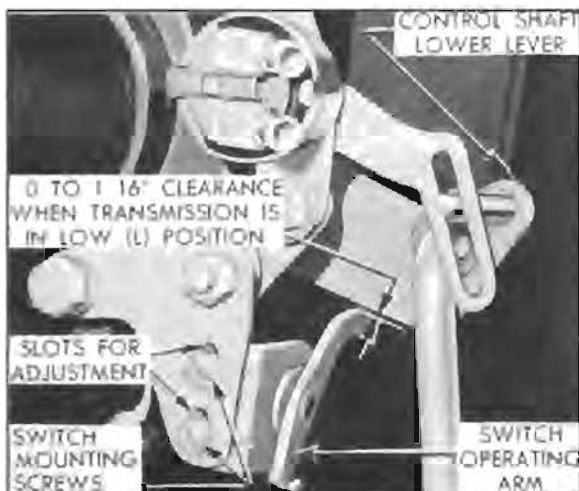

Figure 11-6—Back-up Lamp Switch Mounting—Dynaflow
1. Check the adjustment of switch by placing transmission control lever in Low (L) position, then checking clearance between switch operating arm and lower edge of control shaft lower lever. Correct clearance is 0 to  $\frac{1}{16}$ ".
2. If the specified clearance does not exist, loosen the two switch mounting screws and move switch up or down on mounting bracket as required to obtain clearance, then tighten screws securely. Switch screw holes in mounting bracket are slotted to permit this adjustment. See figure 11-6.